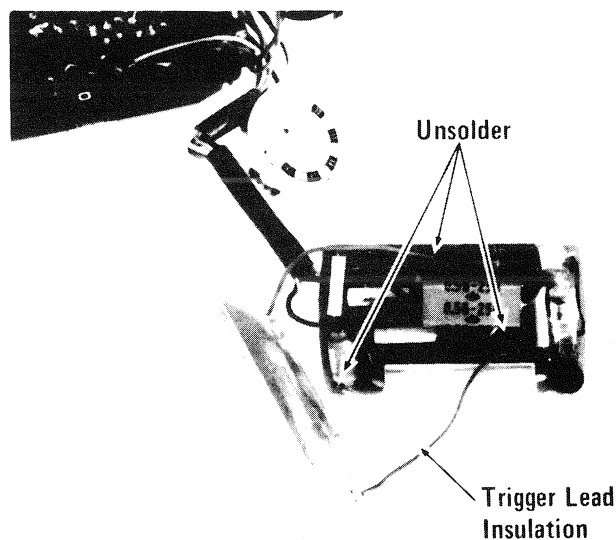

Figure 3-13. Flashtube Removal
B. To remove the xenon flashtube, unsolder the 3 lead wires where shown. Be careful not to lose the clear plastic insulating sleeve on the trigger lead of the flashtube. Fig. 3-13.